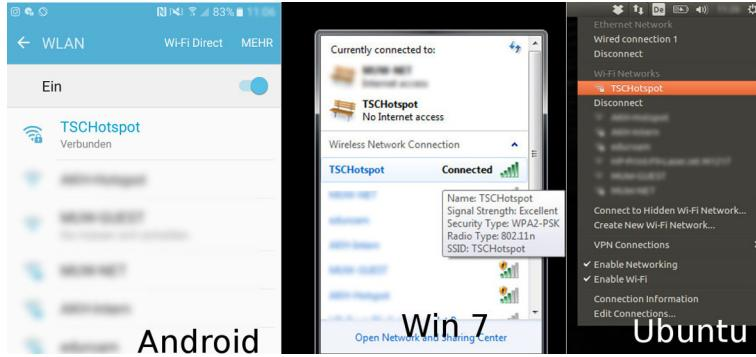

Figure 20: Various views of the autonomous **TSCHotspot** WLAN access point spawn by TSC.
- Select **TSCHotspot** as your WLAN access point (see also Sect. 5 and Fig. 20).
In addition, TSC also supports LX200 operation via WLAN – remember that TSC can open its own access point, and external devices such as laptops and tablets can connect to it. The default name for this autonomous WLAN access point is **TSCHotspot**. Fig 20 shows the looks of accessing TSC.